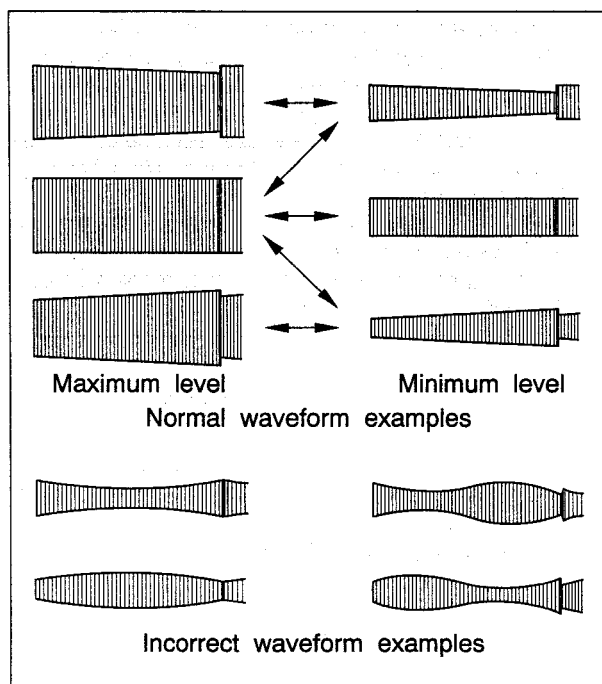

Fig. 2-7-1
- (1) Connect the oscilloscope to TP106(PB FM) on the Main board.Use TP111(D.FF) on the Main board as a trigger.
- (2) Playback the SP stairstep portion of the alignment tape [MHPE].Confirm that the FM waveform appears as indicated in Fig.2-7-1.
- (3) Set the manual tracking position by pressing the **///** button on the remote controller or TV PROG "-" and "+" buttons simultaneously.
- (4) Operate the tracking adjustment (press the TV PROG buttons during playback) and set for maximum playback FM waveform.
- (5) By operating the TV PROG button,vary the FM waveform from maximum to minimum and vice versa to confirm that the waveform varies nearly in a flat shape as shown in Fig.2-7-1.